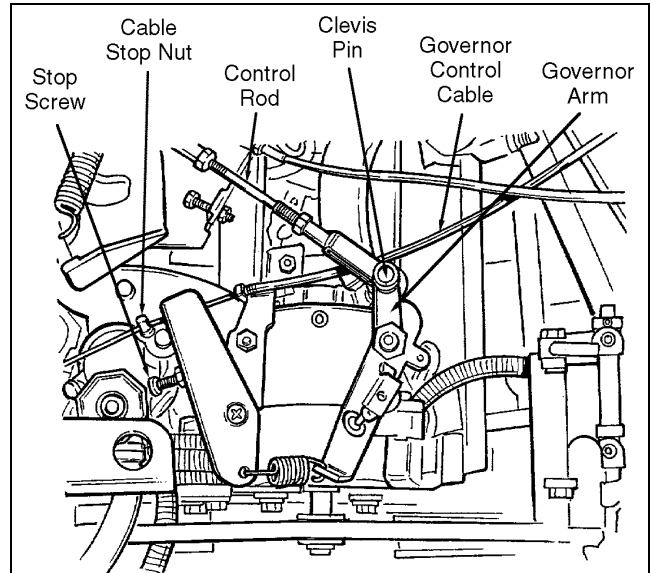

Figure 2C-15. RPM Adjustments
- Move the handle throttle lever to 'UP' (rabbit icon) position and move the governor control lever 'UP' or 'DOWN' until 3600 ± 50 RPM is obtained. Tighten the governor stop screw (see Figure 2C-15) to lock the high RPM setting.